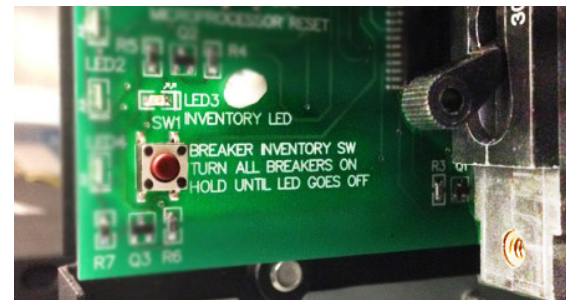

Figure 5. Breaker Inventory Button and LED
- Step 2.** Press and hold the blue button (See Figure 5 for breaker inventory button location). Hold the button until the red BREAKER INVENTORY LED turns on and subsequently turns off. This should take about 5 seconds.